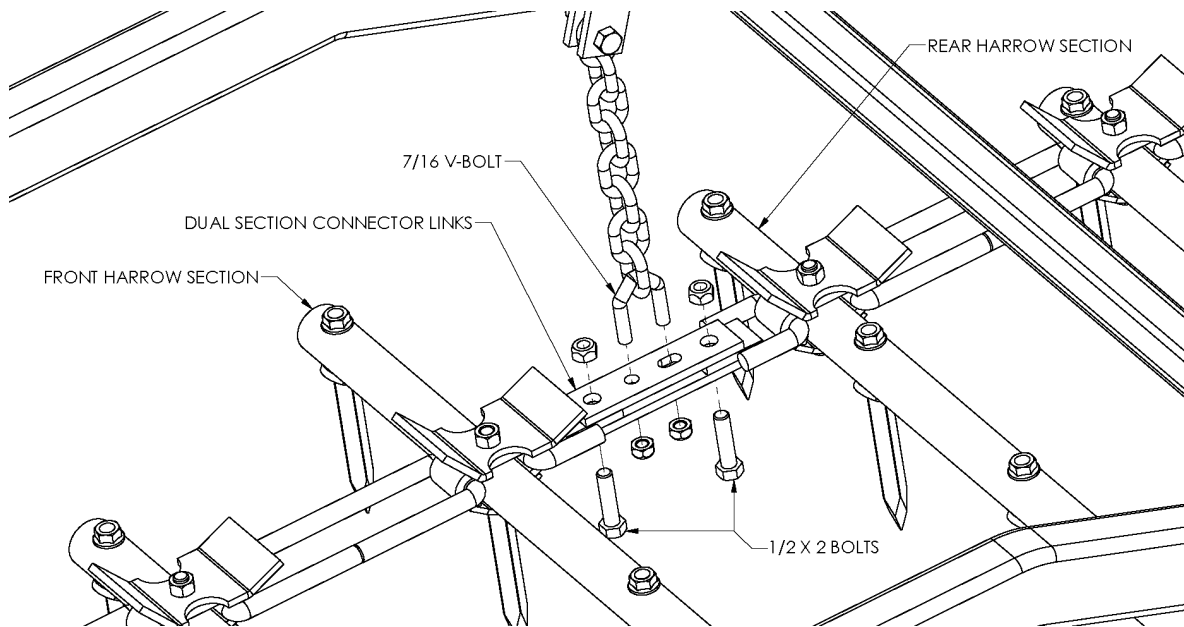

Figure 19
3. Bolt the front and rear harrow sections together using two 5/16" x 1 1/2" x 6" dual section connector links at each pull tab. Refer to Figure 19. Use two 1/2" x 2" bolts and locking hex nuts. Do not tighten yet.